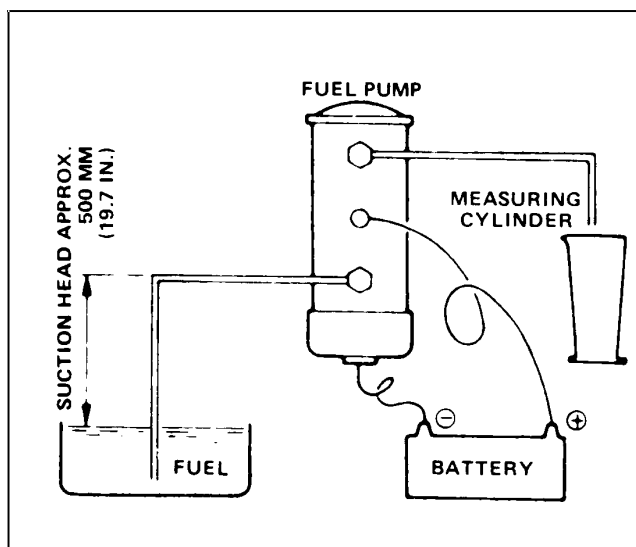

Figure 22
Fuel Pump Test (Fig. 22)
2. If no pumping action occurs when the ignition switch is turned on, connect a 12 volt DC battery directly to the pump (Fig. 22). If the pump now operates, check for an electrical failure of the pump circuit, eg. fuses, connections, wires, etc.
3. The delivery of the fuel pump may be checked by disconnecting the fuel lines from the water separator and fuel filter and routing them to a can of filtered diesel fuel and a drain pan (Fig. 22). Activate the pump and measure the amount of fuel pumped in during a 15 second time interval. The standard pump rate is approximately 8 ounces (225 cc) in 15 seconds.